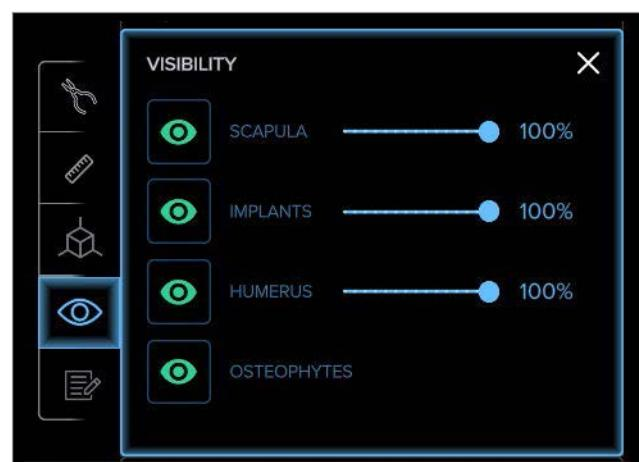
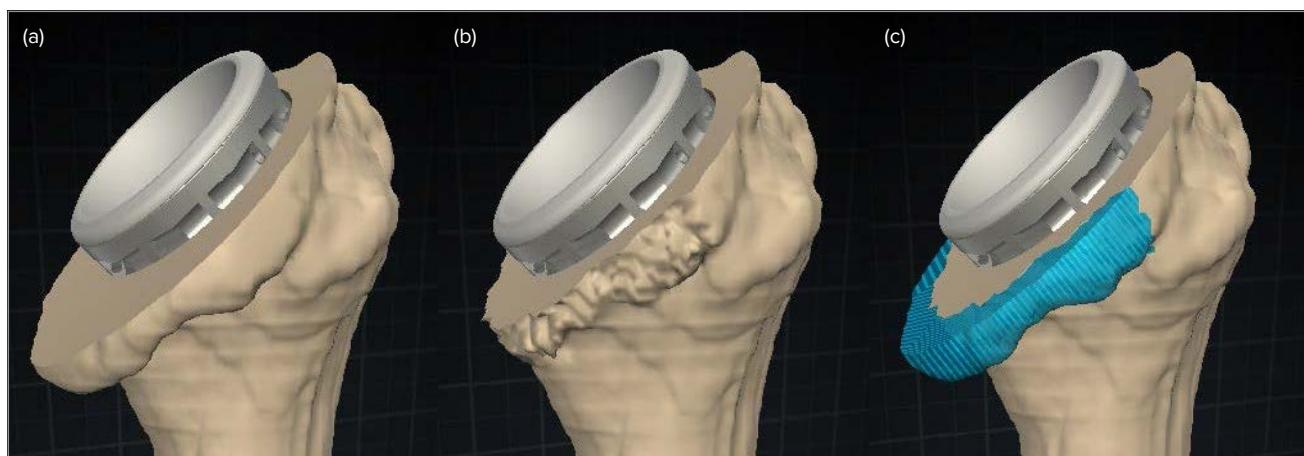

Figure 20. Osteophyte visualization toggle
Figure 21. Native anatomy (a), osteophytes removed (b), and visualized (c)
- Bone removed using the osteophyte removal tool can be visualized by selecting the “Osteophytes” toggle within the visibility tool (Figure 20) and are represented on the 3D model as shown in Figure 21. If the tool has not been used, the “Osteophytes” toggle will be hidden.